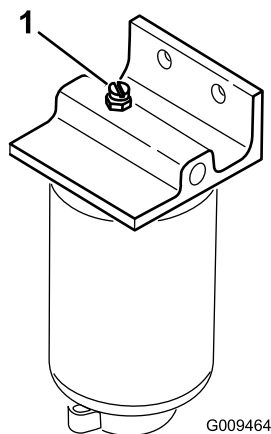

Figure 44
3. Open the vent plug on the fuel/water separator (Figure 44)